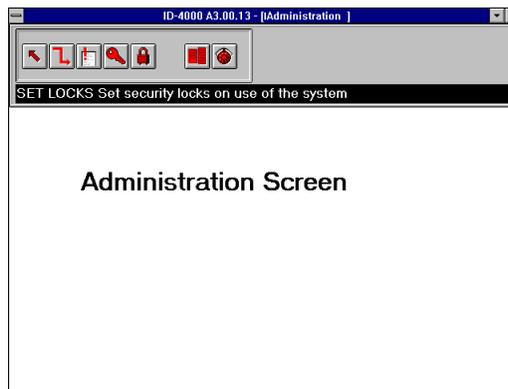

Figure 4-14. System Management Window
3. Choose the System Management button to display the System Management window (Figure 4-14).